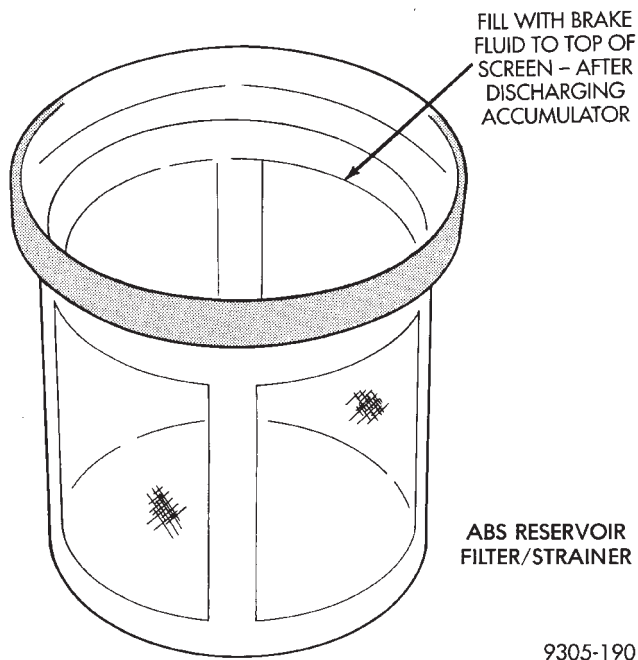
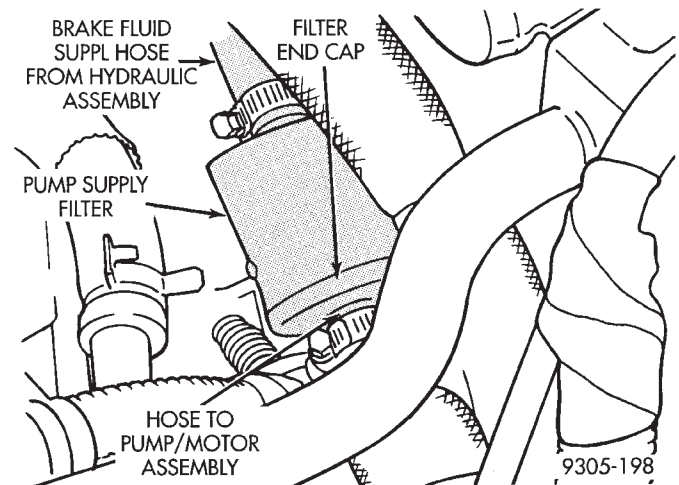
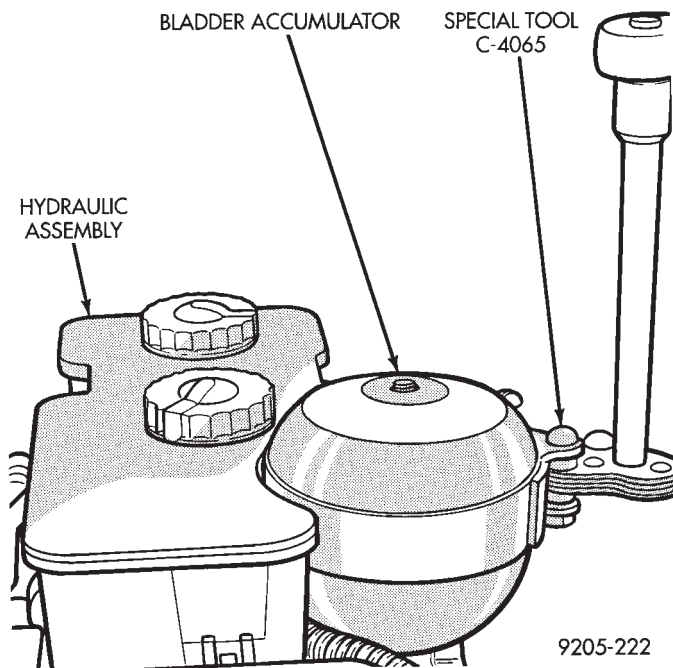

Fig. 15 ABS Reservoir Fill Level On Filter/Strainer
Fig. 17 Pump Supply Filter
Fig. 18 Remove And Install Bladder Accumulator
(8) Fill the hydraulic assembly reservoir to the top of the screen on the filter/strainer (Fig. 15). Using fresh clean brake fluid such as Mopar® or equivalent, conforming to DOT 3 requirements.
(4) Remove brake fluid supply hose from hydraulic assembly master cylinder at pump supply filter (Fig. 17). After hose is removed from pump supply filter, plug end of hose to stop brake fluid from draining out of fluid reservoir.
(5) Remove brake fluid supply hose to the pump/motor assembly at the pump supply filter (Fig. 17).
(1) Install replacement hose clamps on the ends of the brake fluid supply hoses.
(2) Install pump supply filter into brake fluid supply hose to pump/motor assembly (Fig. 17). **Filter is to be installed into brake fluid supply hose with filter end cap toward the pump/motor fluid supply hose as shown in (Fig. 17).**
(3) Remove plug and install brake fluid supply hose from hydraulic assembly fluid reservoir, onto the pump supply filter. Position hose clamps on brake fluid supply hoses so that they are past upset bead on nipple, then torque both hose clamps to 1.5 Nm (13.5 in. lbs.).
(4) Turn ignition switch to the run position to energize the pump/motor assembly and pressurize hydraulic system. Check for leakage at the hydraulic assembly to hydraulic bladder accumulator fitting.
(5) Again de-pressurize accumulator by pumping brake pedal a minimum of 40 times as described. Use procedure in De-Pressurizing Hydraulic Accumulator in this section of the manual.
(6) Then check the brake fluid level in the hydraulic assembly reservoir. If brake fluid level is low, fill reservoir to proper level (Fig. 15) with Mopar® brake fluid or equivalent conforming to DOT 3 requirements.
(2) Using Oil Filter Band Wrench, Special Tool C-4065 or equivalent loosen bladder accumulator. Then remove the bladder accumulator and brake fluid spray shield from the hydraulic assembly (Fig. 18).
(2) Install the bladder accumulator onto the hydraulic assembly by hand. Be sure that the O-Ring on the bladder accumulator is fully seated into the hydraulic assembly.
(3) Using Oil Filter Band Wrench, Special Tool C-4065 or equivalent, (Fig. 18) torque the bladder accumulator to 48 N•m (35 ft. lbs.).
(5) Again de-pressurize accumulator by pumping brake pedal a minimum of 40 times as described in De-Pressurizing Hydraulic Accumulator in this section of the manual.